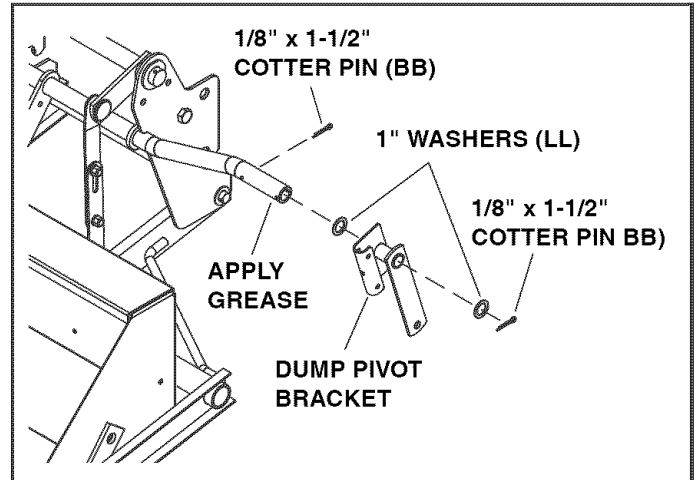

FIGURE 7
(SEE FIGURE 7)**
- Install a 1/8" x 1-1/2" cotter pin (BB) to the inside hole in the shaft shown in figure 7, and then install a 1" washer (LL) onto the shaft. Apply grease to the end of the shaft and install the dump pivot bracket assembly onto the shaft. Install a 1" washer (LL) onto the shaft and secure it using a 1/8" x 1-1/2" cotter pin (BB).